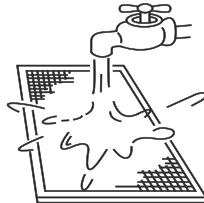

Fig.6-4
- The air-in side should face down when using water. (See Fig. 6-4)